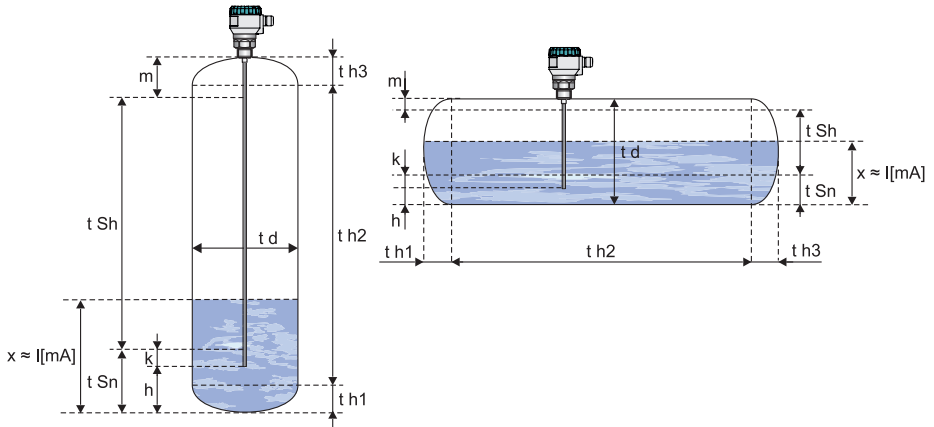

Fig. 13: Volume characteristics parameters of a cylindrical tank, where the level is measured using guided wave radar level meter
the parameters defining shape of cylindrical tank (Figure 13 and Figure 16).
- „t Sn”, „t Sh” parameters defining the length and position of the sensor used to measure level of liquids, gases or solids in the tank (Figure 13 - 16).